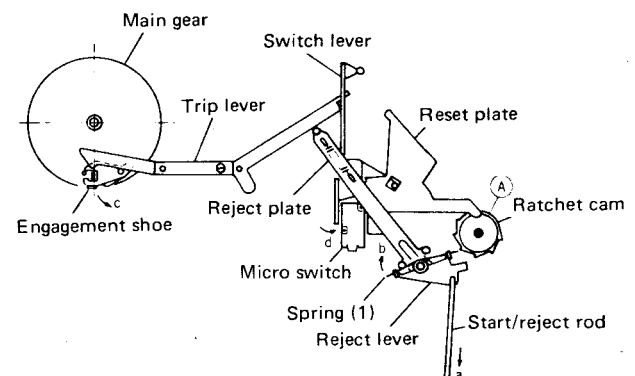

Fig. 17
If the START/REJECT lever is pushed toward "REJECT" while a record is playing, the start/reject rod moves in the direction of arrow (a), and the reject plate and trip lever are pushed by the spring (1), as shown in Fig. 17. As a result of this, the engagement shoe is moved out in the direction of arrow (c), beginning the change cycle.